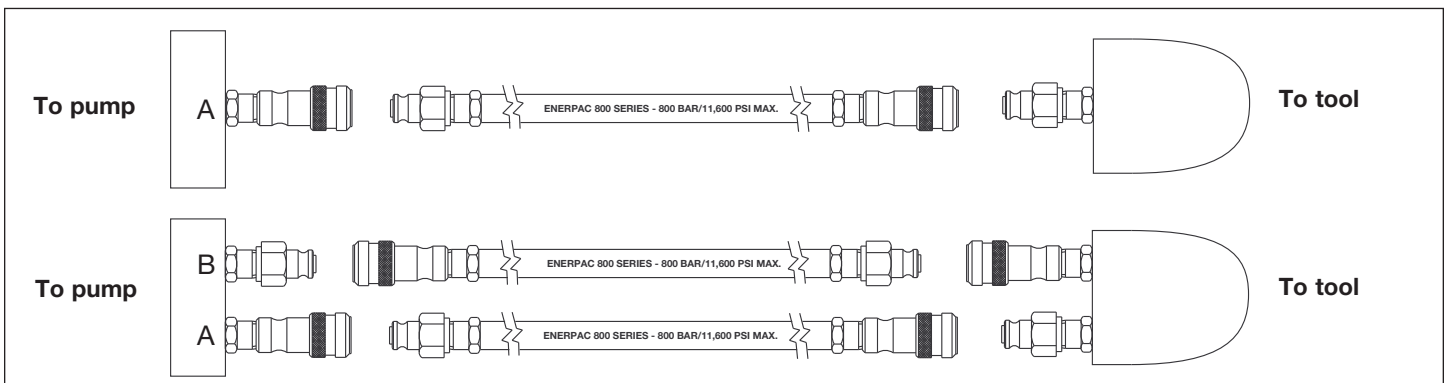

Figure 4 - Connections to Torque Wrench
2. Connect other end of hose to coupler on wrench as shown in Figure 4. Hand tighten coupler lock rings.
2. Couple hoses to torque wrench as shown in Figure 4. Hand tighten coupler lock rings. When using the Enerpac pump and torque wrench combination, Series 800 hoses and couplers are designed so that the pump advance port can only be connected to the wrench advance port, and the pump retract port can only be connected to the wrench retract port.